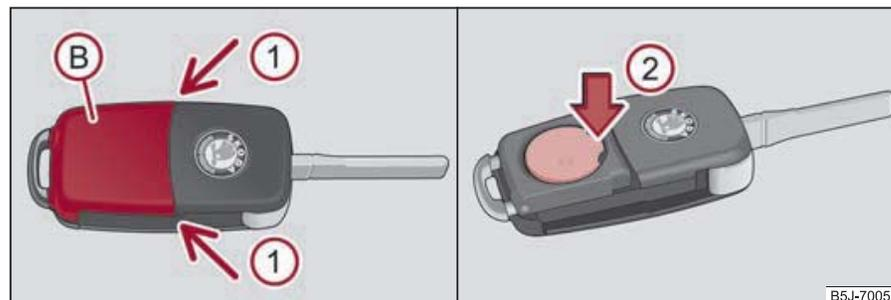

Fig. 23 Remote control key - remove cover/remove battery
Each remote control key contains a battery which is housed under the cover (B) ⇒ fig. 23. If the battery is discharged, the red indicator light (A) does not light up after pressing a button on the remote control key ⇒ fig. 22. We recommend that you have the batteries of the key replaced by an authorised Škoda Service Partner. You should, however, proceed as follows if you wish to replace the discharged battery yourself:
- Press off the battery cover with your thumb or using a flat screwdriver at the points of the arrows ①.
- Remove the discharged battery from the key by pressing the battery downwards at the point of the arrow ② ⇒ fig. 23.